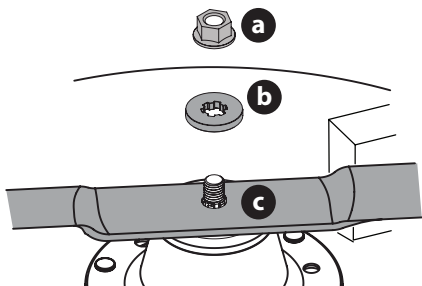

Fig. 64
- Remove the flange lock nut (a) and flat washer (b) from the spindle shaft and remove the blade (c) (Fig. 64).